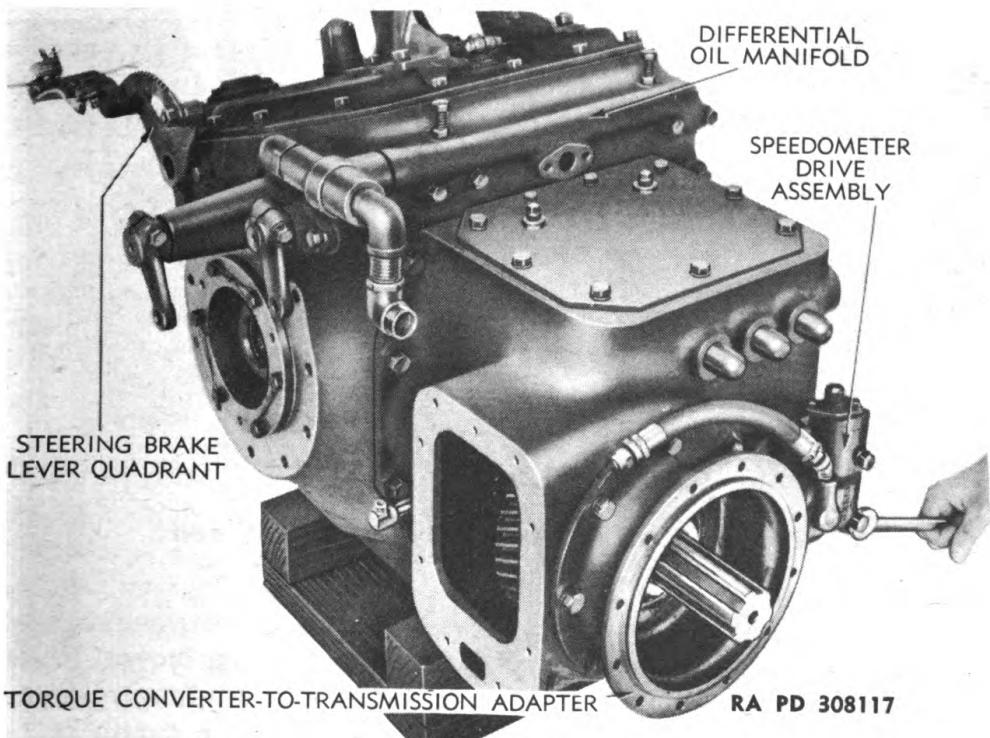

Figure 17 – Removing Speedometer Drive Assembly
e. **Remove Speedometer Drive Assembly and Converter Adapter** (fig. 17). Remove the six cap screws that attach speedometer drive housing to transmission case and remove drive assembly, pulling it straight from case. Remove the seven attaching cap screws from torque converter to transmission adapter and remove adapter. Remove steering brake lever quadrant from differential case after removing three cap screws.
f. **Remove Transmission From Differential** (figs. 17 and 18). Remove 4 cap screws attaching oil manifold to rear of differential case and lift manifold and oil pressure relief valve assembly from case. Remove 9 cap screws and lift off transmission cover. Unscrew